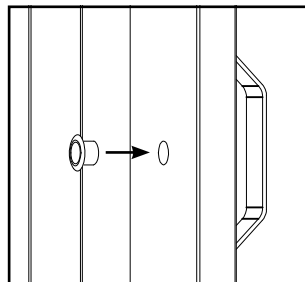

Figure 6. Pre-drilling for Finger Pull
2. Press the finger pull into place as shown in figure 6.